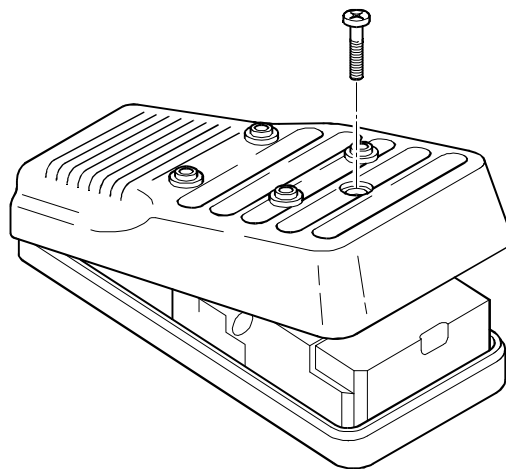

Figure 17: Handsfree cover removal
2. (Figure 17) Remove the front cover from the handsfree assembly by removing the cover securing screw and disconnecting the speaker lead from the handsfree PCB.